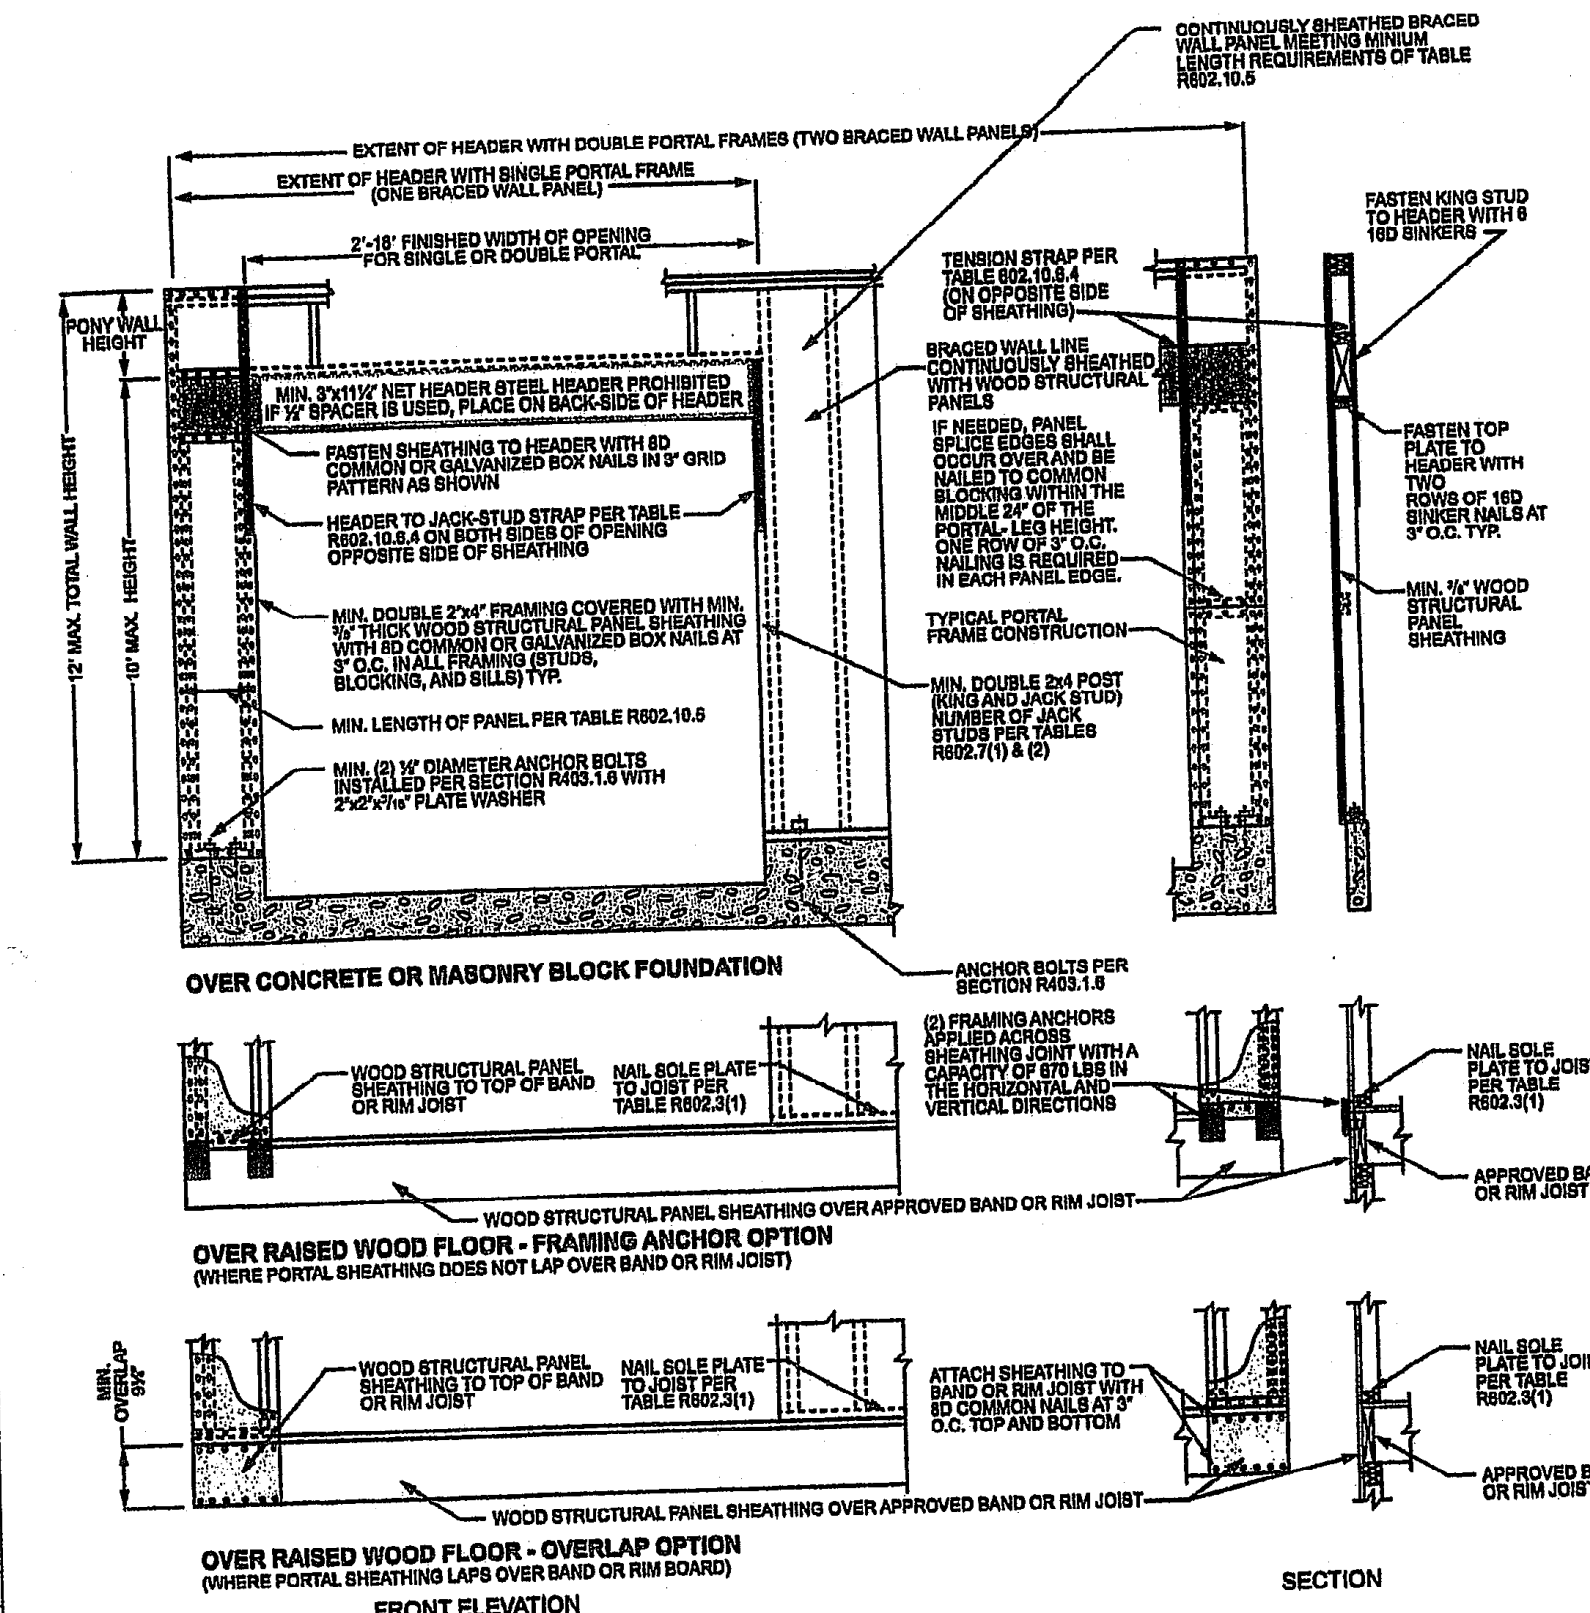

FIGURE R602.10.6.4
d. Maximum header height for PPG is 10 feet in accordance with Figure R602.10.6.3, but wall height shall be permitted to be increased to 12 feet with pony wall.
e. Maximum header height for CS-PF is 10 feet in accordance with Figure R602.10.6.4, but wall height shall be permitted to be increased to 12 feet with pony wall.